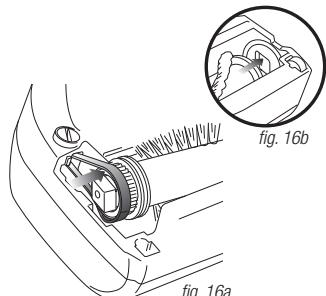
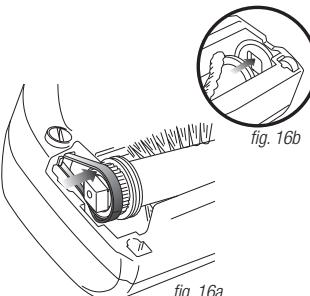

fig. 16a
fig. 16b
- 1 To reinsert the brush roll, first slip the black belt onto the white gear (fig. 16a), then align the white square on the opposite side of the brush roll into the square slot. (fig. 16b)